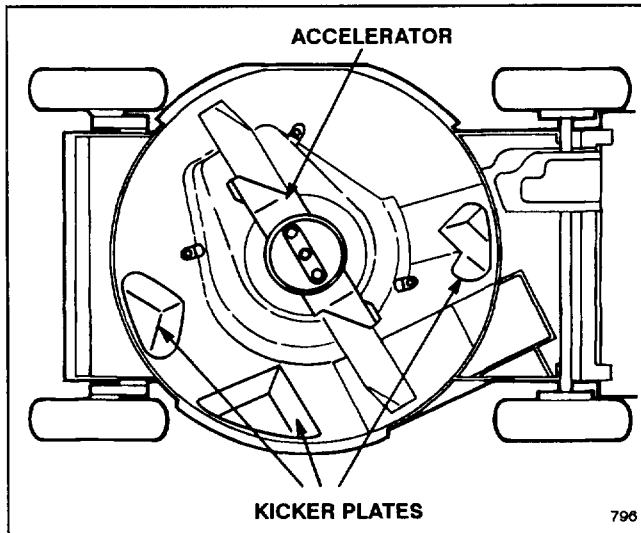

Figure 8
- Three "kicker plates" positioned on the underside of the mower deck in strategic positions (Fig. 8)